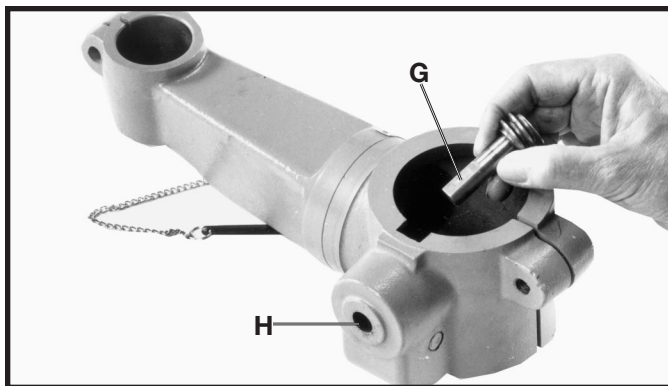
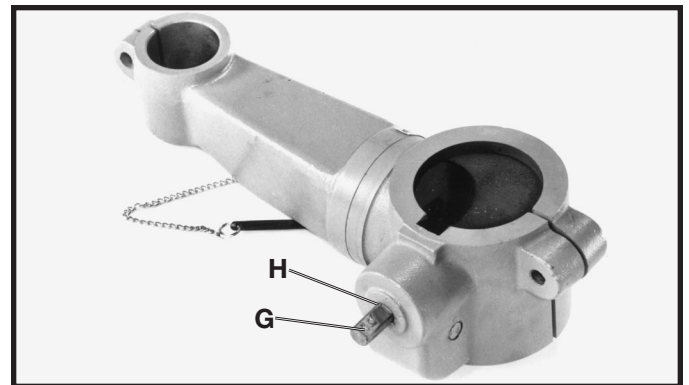

Fig. 4
Fig. 5
2. Insert small end of worm gear (G) Fig. 4 and Fig. 5, through hole (H), from the inside of the table bracket. Make certain that the worm gear engages the internal gear in the table bracket.